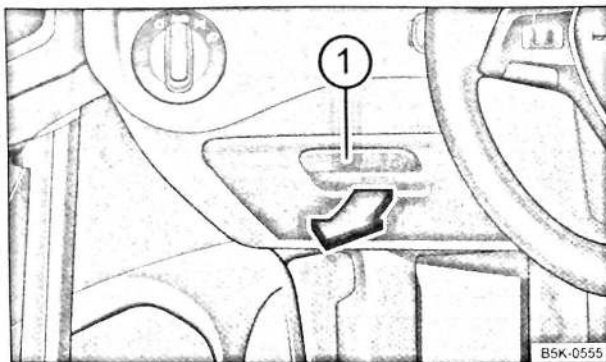

Fig. 109 On the driver side: stowage compartment
To *open*, press the button $\Rightarrow$ Fig. 109 ① down and pull the grip in the direction of the arrow.